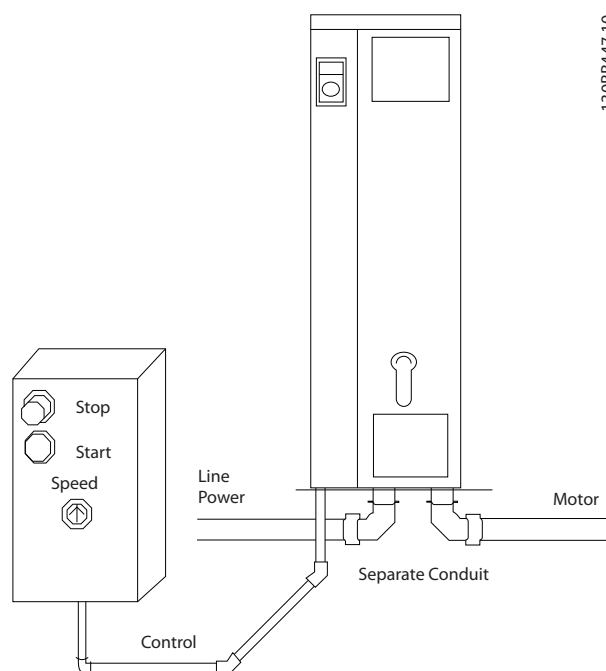

Figure 2.6 Proper Electrical Installation Using Conduit
- Because the motor wiring carries high frequency current, it is important that wiring for line power, motor power, and control is run separately. Use metallic conduit or separated shielded wire. Failure to isolate power, motor, and control wiring could result in less than optimum equipment performance. See Figure 2.6.